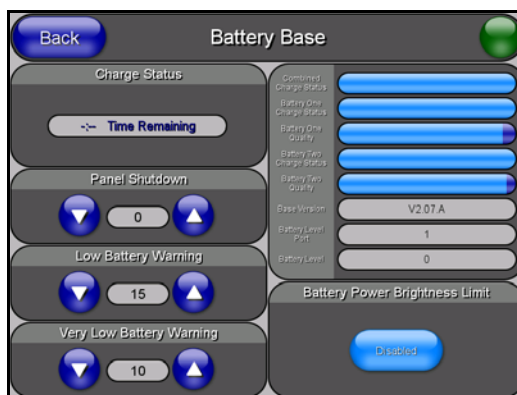

FIG. 79 Battery Base page
3. Press the **Battery Base** button to open the Battery Base page (FIG. 79).